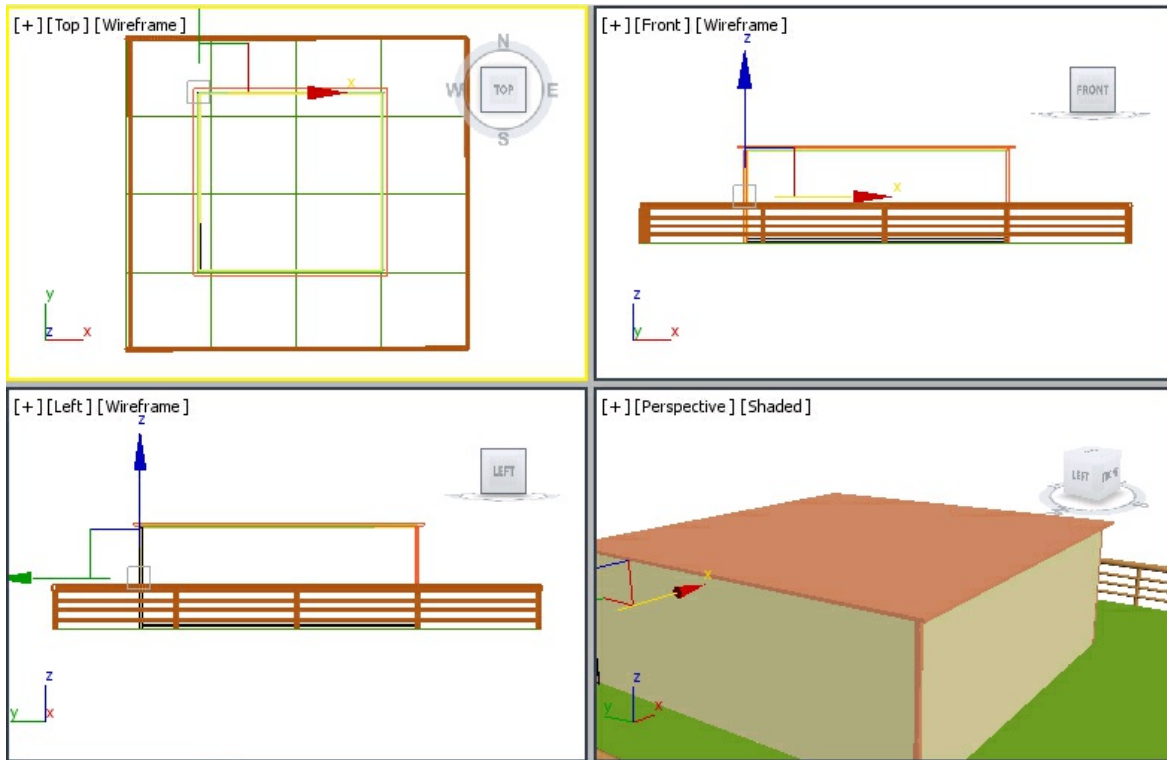

Figure 4-80 The fencing geometry at the four corners of wall in viewports
28. Select *fencing01* and create its three copies. The copies are automatically named as *fencing002*, *fencing003*, and *fencing004*. Now, align them at the corners of *wall* using the **Select and Rotate** and **Select and Move** tools, refer to Figure 4-80. Also, you can use the **Zoom** tool to view the corners of *wall*.
29. Choose the **Maximize Viewport Toggle** tool to view the four viewports, as shown in Figure 4-80.